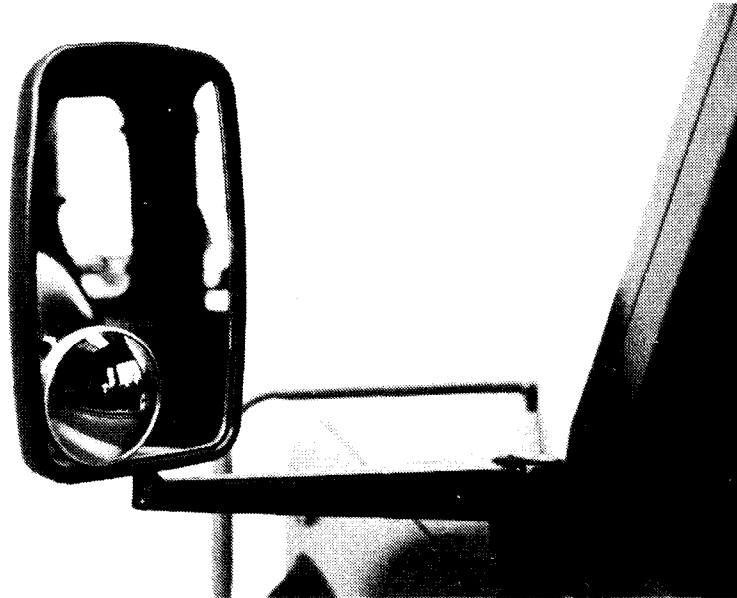

FIG 1 - SPOT MIRROR (LEFT HAND SIDE SHOWN ONLY)
- b. Remove the adhesive protective film on the rear of the spot mirrors and secure in the outer lower corner of each existing external rear view mirror assembly, as shown in Fig 1 (left hand side shown only).